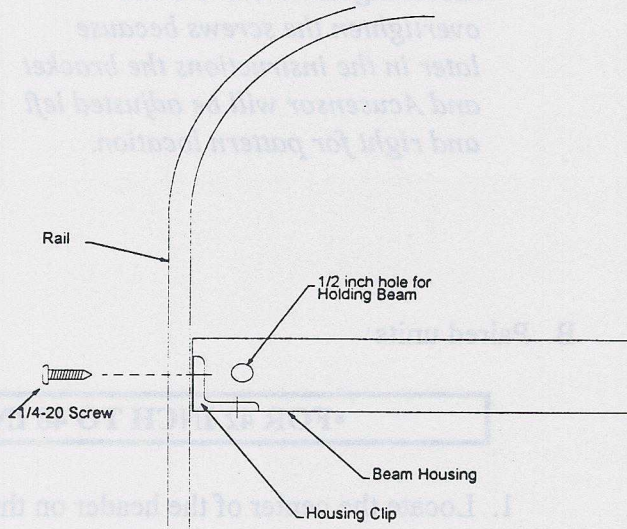

Figure 5
- C. The beam housing has a clip which mounts the housing to the rail. Place the housing in the rail and secure it by using the four 1/4-20 screws provided (See Figure 5).